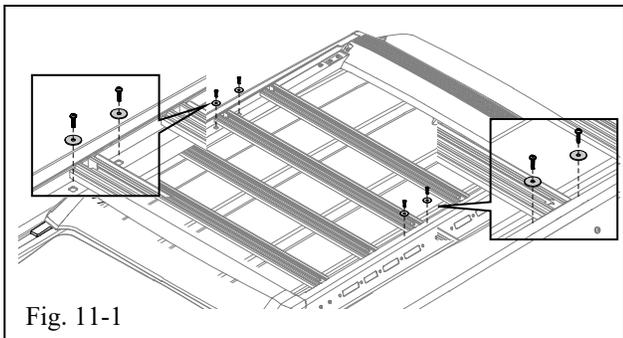

Fig. 11-1
- (a) At each of the locations shown, use a torx wrench to install a washer and bolt. Do not fully tighten the bolts yet. (Fig. 11-1).